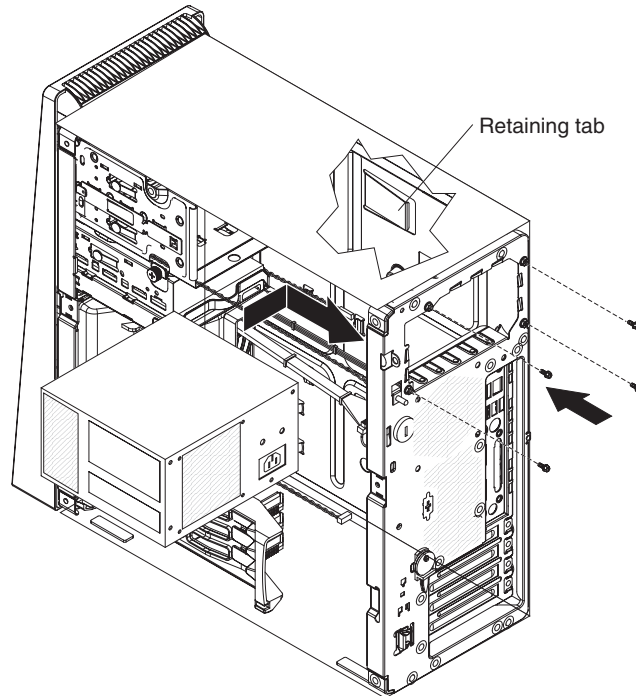

Figure 53. Installing the power supply
1. Place the power supply into the chassis and slide it toward the rear of the computer until the power-supply retaining tab clicks into place (see Figure 53).